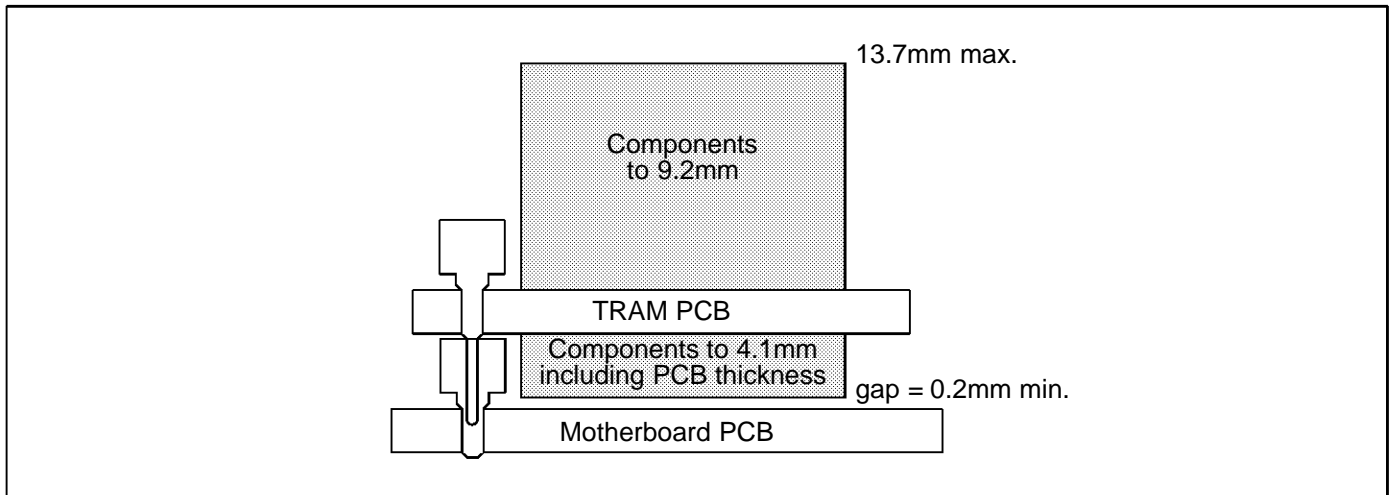
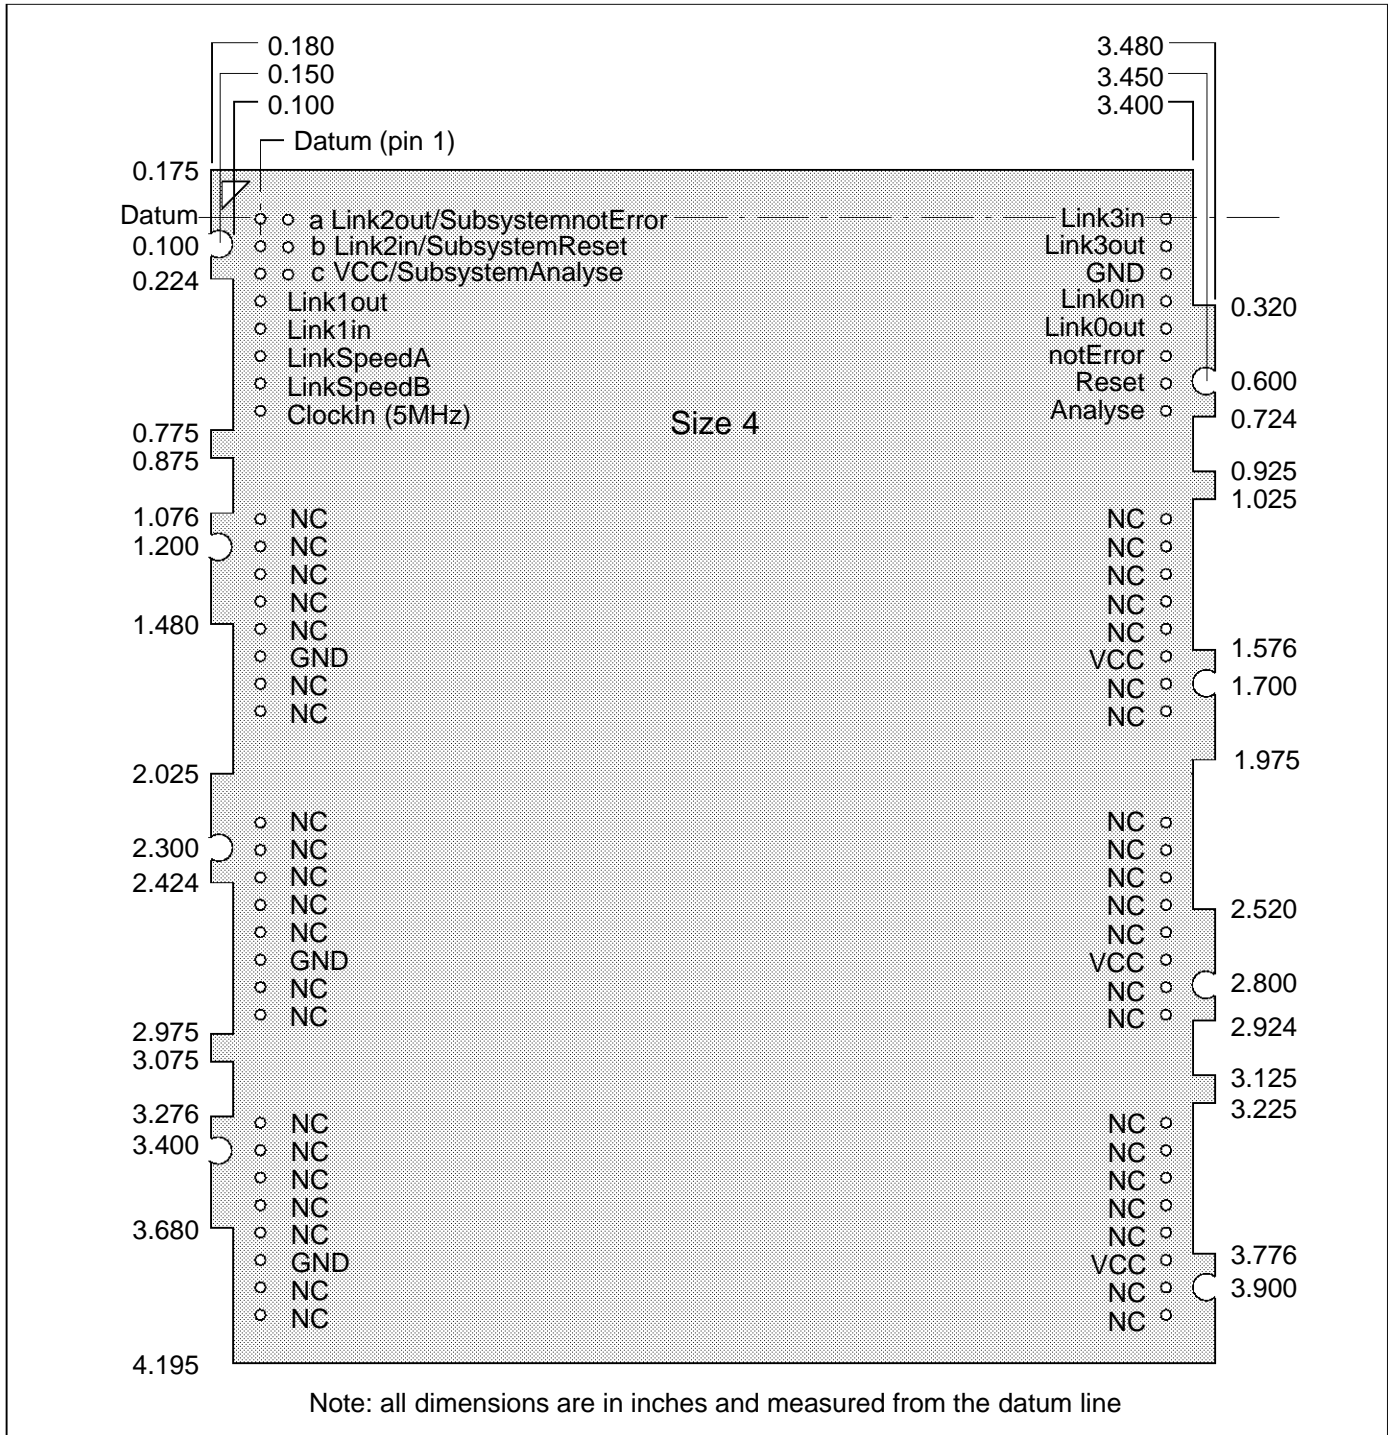

Figure 1.2 IMS B433 height specification
Figure 1.3 IMS B433 outline drawing
- 2 Details of the physical pin locations can be found in Figure 1.3.
Figure 1.2 indicates the vertical dimensions of a single IMS B433 and Figure 1.3 shows the outline drawing of the IMS B433.
Plug the IMS B433 into the motherboard. Where the IMS B433 is being used with an INMOS motherboard, the silk screened triangle marking pin 1 on the IMS B433 (see Figure 1.3) should be aligned with the silk screened triangle that appears in the corner of the appropriate TRAM slot.